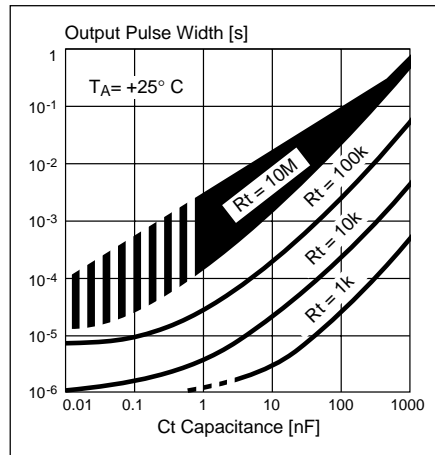

Figure 21. Typical  $t_{on}$  vs.  $C_t/R_t$ . Output pulse width vs. capacitance/resistance
- Figure 21 shows the relationship between  $C_T$ ,  $R_T$ , and  $t_{on}$ . Care must be taken to keep the  $t_{on}$  time short, otherwise the current in the winding will rise to a value many times the rated current, causing an overheated IC or motor.